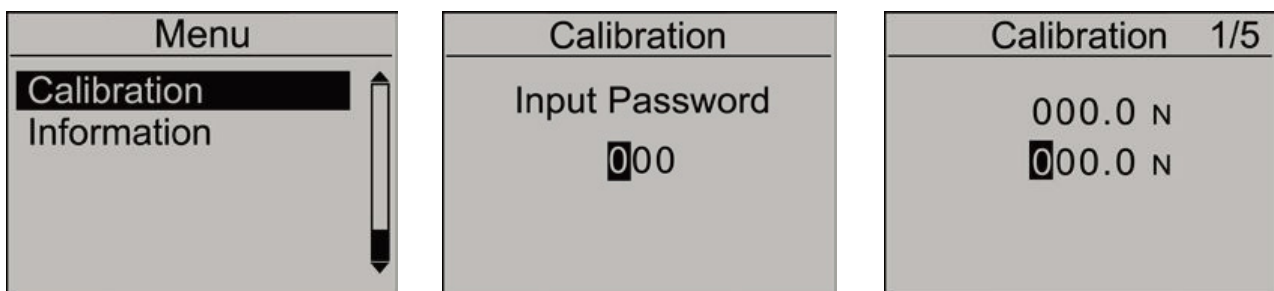

Fig. 5-2
- ① Mount the force gauge.
- ② Remove the tare by use of the key .
- ③ Enter Calibration interface, as Fig 5-2.